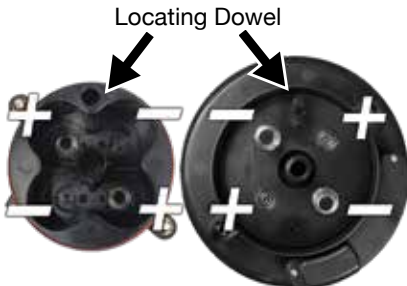

Figure 2a
3. Fountain requires 4 D Batteries (Not Included), insert x2 D Batteries with the (-, Negative) side facing down in Battery Compartment (Figure 2a), negative side of the battery will be resting on the raised coil/spring. Then insert the other 2x D Batteries with the (+, Positive) side facing down in the Battery Compartment. (Figure 2a).
4. Reinstall the Fountain Top by aligning the locating dowel in the Battery Compartment and Fountain Top. Set the Battery Cover down onto the Battery Compartment ensuring the dowel sets into the alignment hole and that the pump wire is placed back in the cable notch. Apply pressure and tighten the Battery Cover Screws by turning clockwise. NOTE: Pressure must be applied to the Battery Compartment while tightening the screws to assure the compartment is properly sealed. If needed, while holding battery compartment, place it upside down on an even surface to tighten screws (Figure 2a, 2b & 2c).
DANCING WATER ATTACHMENTS: (OPTIONAL): You can put any of the Dancing Water Attachments on the Fountain whether the Fountain is running or is not running. Select one of the Dancing Water Attachments and place on the outlet in the middle of the Battery Compartment (Figure 2a, 2b & 2c).